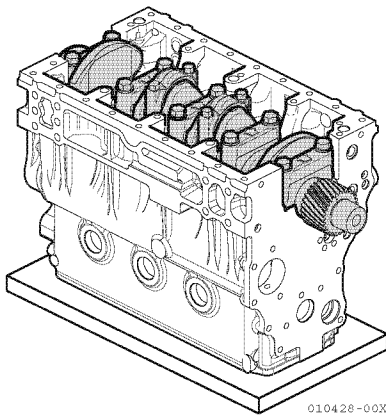

Figure 5-52
48. Turn the engine over, with the cylinder head mounting surface facing down (**Figure 5-52**).